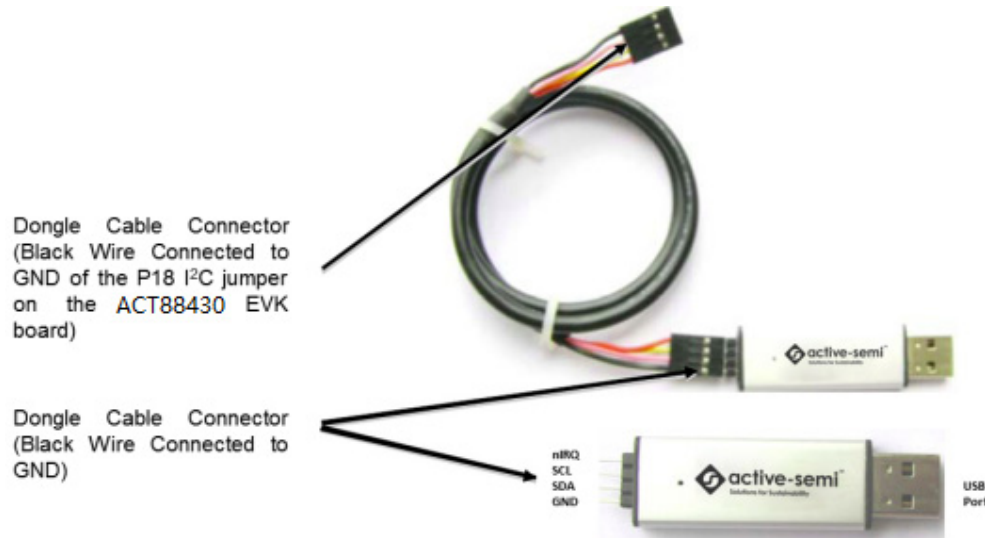

Figure 4 – USB-TO-I2C Dongle Connection
3. Connect the USB-TO-I2C dongle to the EVK J15 connector. Refer to Figure 4 to ensure the correct polarity of the connection. As a guide, use the “Active-Semi” logo on the top of the dongle so the black wire is connected to the Dongle GND pin.